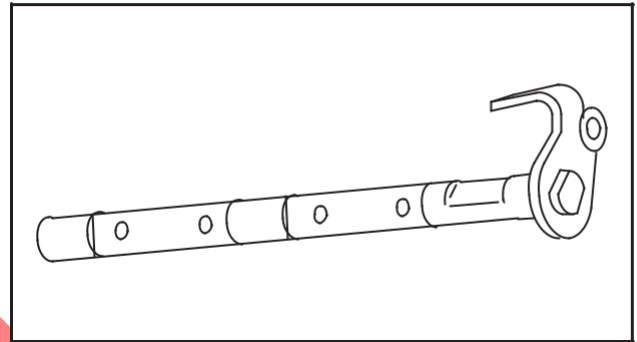

Fig. 12 – Checking Throttle And Choke Shaft
2. Inspect throttle shaft and choke shaft for wear, Fig. 12. Replace if worn. If carburetor body is worn, replace carburetor.